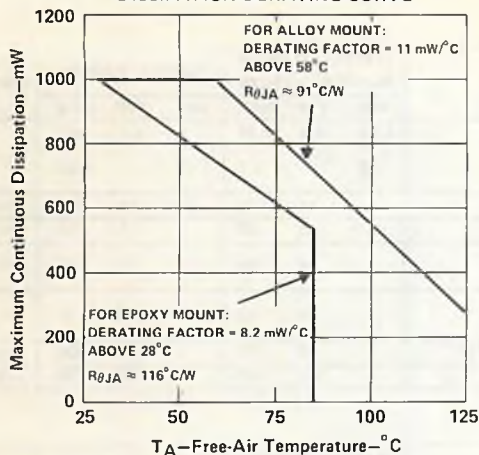

FIGURE 1
2. For operating above 25°C free-air temperature, see Dissipation Derating Curves, Figures 1 and 2. In the J package, TL1525A and TL1527A chips are alloy mounted; TL2525A, TL2527A, TL3525A, and TL3527A chips are epoxy mounted.